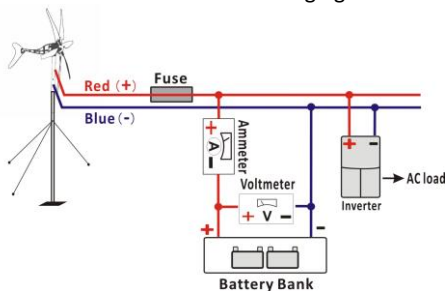

Figure 8: Connect the hybrid system
Please refer to Figure 8 when wiring. Voltmeter (50V rated) and ammeter (20A rated) can be used to test the turbine and the charging. The fuse is 20A.
- Disconnect the turbine from the battery and connect a voltmeter to the Red (+) and Blue (-) wires (Refer to Figure 8). Spin the turbine blades by hand and you should see a voltage up to 20V on the voltmeter. Voltage will depend on rotation speed and will not be stable. This is normal.